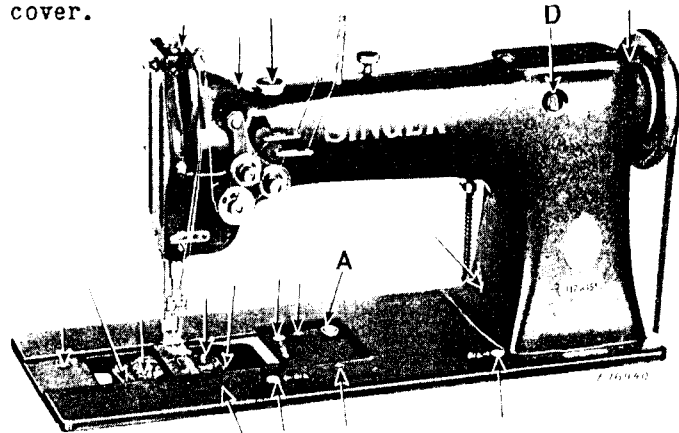

Fig. 2. Oiling Points at the Front of the Machine
All parts of these machines can be oiled without turning the machine back on its hinges. Oil should be applied at each of the places designated by arrows in Figs. 2, 3, 4 and 5. When a machine is in continuous use, it should be oiled at least twice a day. A new machine in continuous use, on long runs should be oiled more frequently. Pull out the attachment slide in front of the needles and oil the feed rock shaft through the large hole in the bed.
The number of stitches per inch is stamped on the stitch indicating disc (D, Fig. 2) located on the arm shaft.
To change the length of stitch, press down the plunger (A, Fig. 2) in the bed of the machine and at the same time turn the machine pulley slowly until the plunger enters a notch in the adjustable feed eccentric cam. Still holding the plunger, turn the machine pulley over a part of a revolution until the number of the stitches per inch desired can be seen through the hole in the front of the arm at D, Fig. 2, then release the plunger (A).